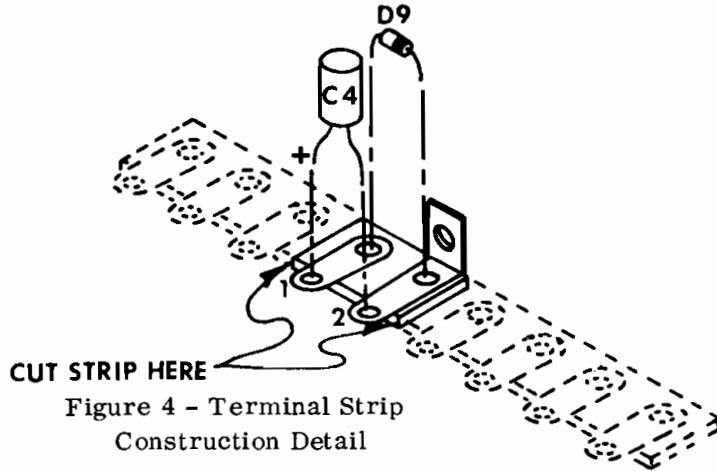

Figure 4 - Terminal Strip Construction Detail
- ( ) Locate the 9-lug terminal strip provided and cut as illustrated in detail drawing figure 4.
Install the diode, D9, as illustrated in detail drawing figure 4. Note that this part is polarized and must be installed so that the banded lead connects to lug #2 of the terminal strip.